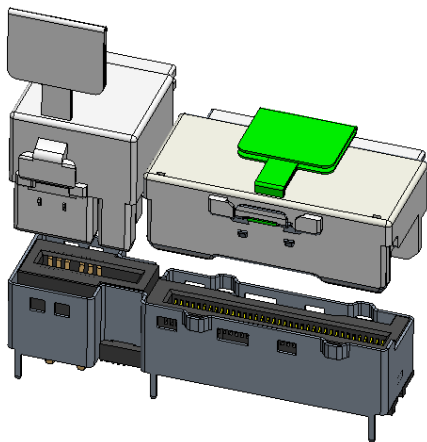
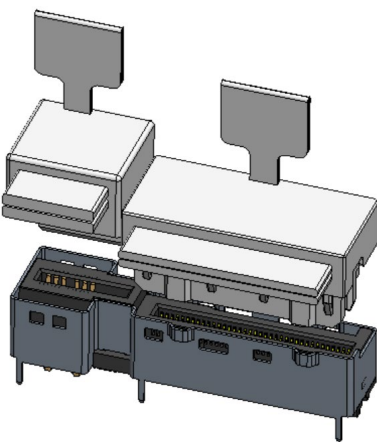

Figure 4-11 Separate RA 74 Pin Cable and a RA 21A Power Cable Application
Figure 4-12 Separate RRA 74 Pin Cable and a RRA 21A Power Cable Application
3. Separate individual cables can plug into the Vertical Combo DE x8+21A Power connector where there is only one 74-pin cable and a 21A Power cable used as shown in Figure 4-11 or Figure 4-12. In this third case, the Straight Plug with no side flanges for 74 Contacts listed in SFF-TA-1016, the equivalent Right Angle Plug (with no side flanges), or a Reverse Right Angle Plug (with no side flanges) can mate with these receptacle connectors. The standard SFF-TA-1016 Straight Plug for 74 Contacts or the Right Angle Plug for 74 Contacts that include the side flanges will not fit.